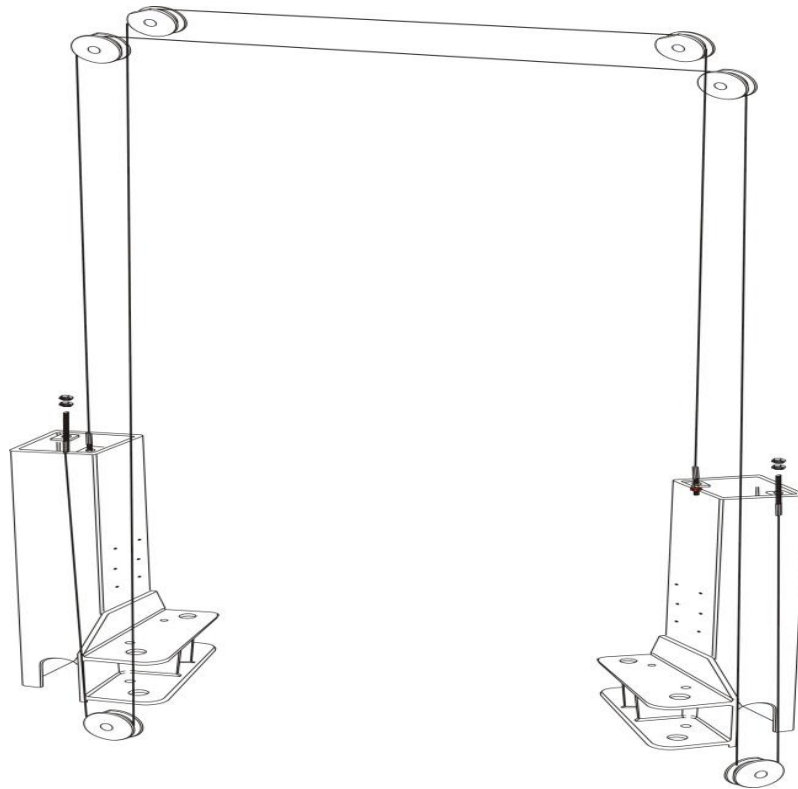

Figure 6
- Raise the two carriages to the safety locking position (make sure that the safety locks on each column are fully engaged before attempting to install cables), and the two carriages are in equal position from the floor (same height). Install the two steel cables as shown in Fig. 6.